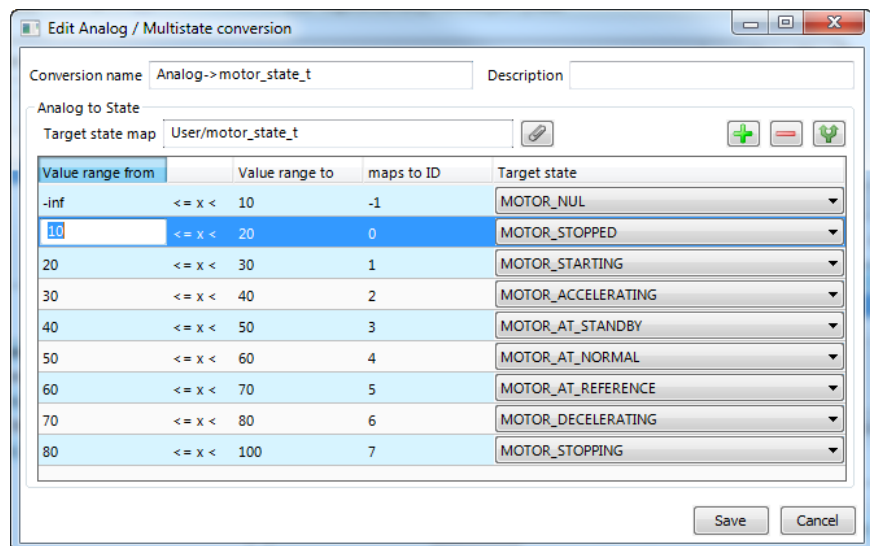

Figure 40: Edit an analog to multi-state conversion.
10. An example for editing an analog to multi-state value conversion is shown in Figure 40. Enter a **Conversion name**, then edit the **Value range from** column and select the desired **Target state** mapping.